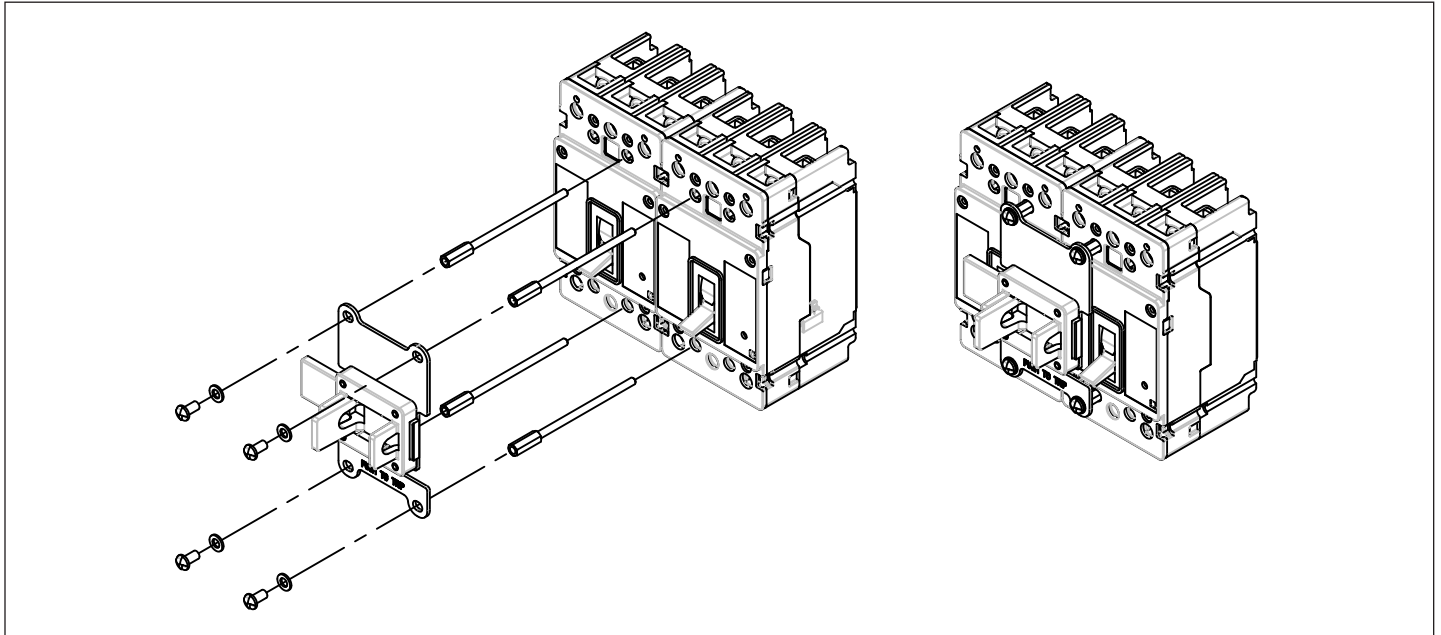

Figure 4. Mounting the Interlock Assembly to a 3-Pole Circuit Breaker.
3. Mount the interlock assembly on the breakers using the four (4) one-way screws and washers supplied with the kit (see Figures 4 and 5).